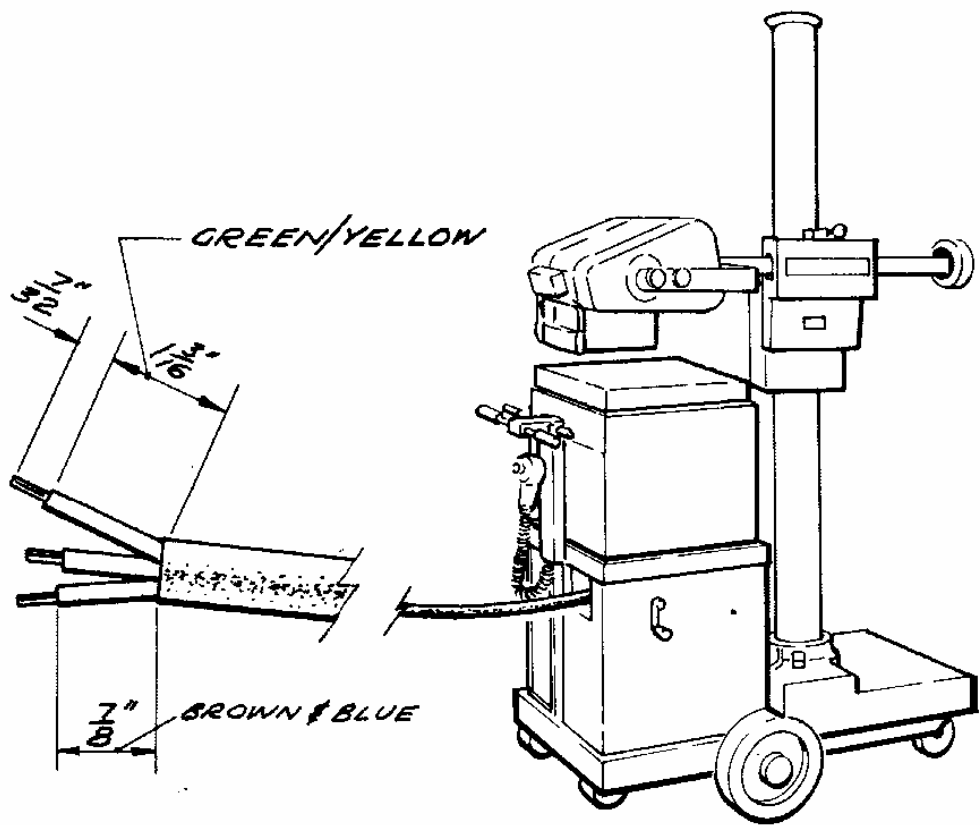

Fig 29 Stripping Mains Cable
21. CONNECTING MAINS CABLE at PLUG Fig 29, 30 and 31
Strip Wire as shown in Fig 29.